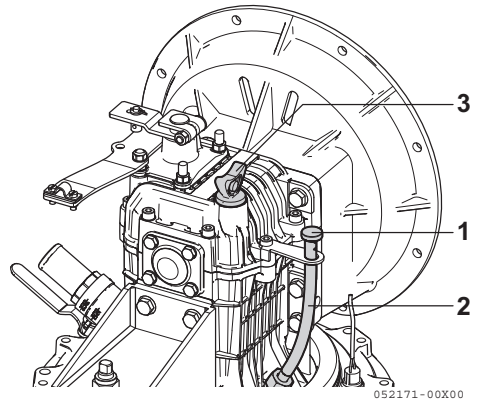
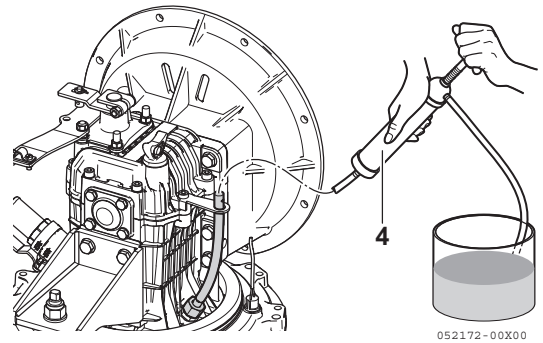

Figure 9
Figure 10
1. Oil change must be done removing the plug (1, **Figure 9**) from the oil suction pipe (2, **Figure 9**).
Suction can be done with hand pump (4, **Figure 10**).
2. Push hose of hand pump (4, **Figure 10**) through the suction pipe (2, **Figure 9**) and suck the fluid off.
4. Un-screw the oil dipstick (3, **Figure 9**).
6. Screw in the oil dipstick (3, **Figure 9**).